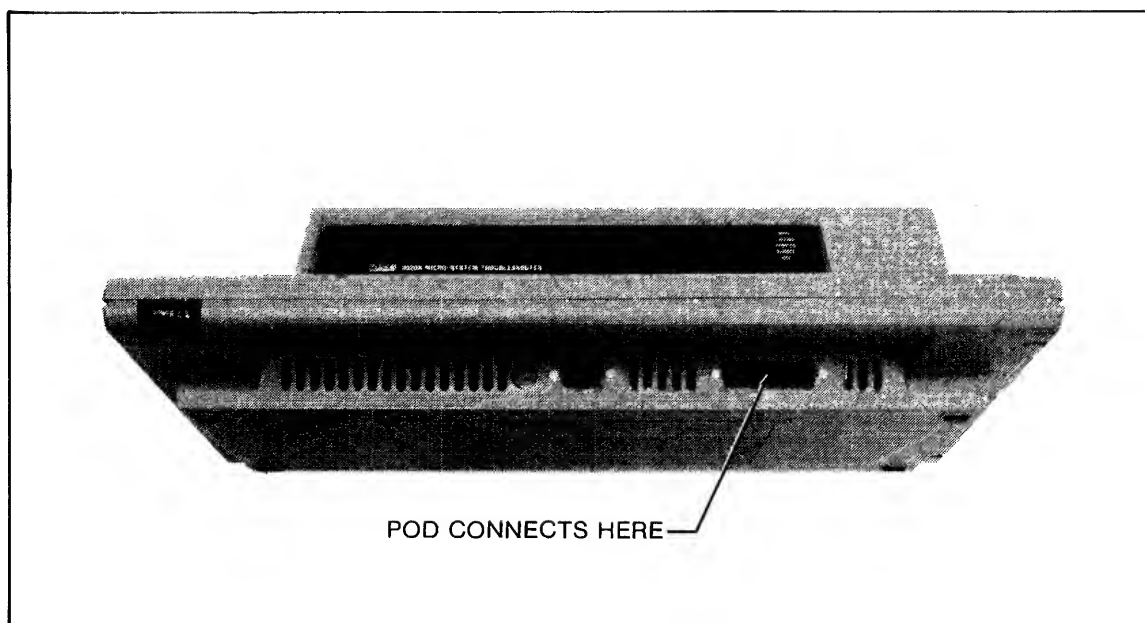

Figure 2-1. Connection of the Interface Pod to the Troubleshooter
2. Connect the Pod's round shielded cable to the Troubleshooter at the location shown in Figure 2-1. Secure the connector using the sliding collar.